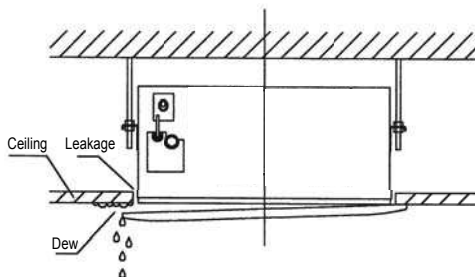

Fig. 5-13
- Malfunction described in Fig. 5-13 can be caused by inappropriate tightness the screw.